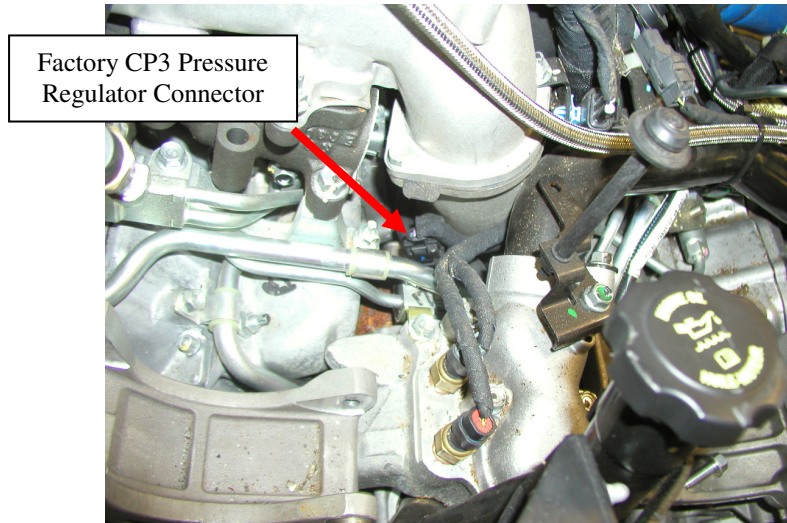

Figure 18: Factory CP3 Pressure Regulator Location
23. Unplug the fuel regulator connector on the factory CP3 pump located in the valley behind the thermostat housing. Removing the alternator will provide more access to the connector, Figure 18.